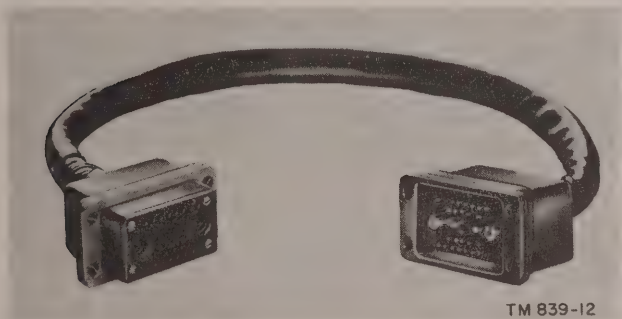

Figure 26. Electrical special purpose cable assembly CX-2371/U (patch cord)
b. Electrical Special Purpose Cable Assembly CX-2371/U is used to connect the receiver, transmitter, or transmitter power supply to the equipment cabinet when it is necessary to operate one of them outside of the equipment cabinet. The cable, known as a patch cord, is 4 feet long and has a male connector on one end and a female connector on the other end (fig. 26). It is useful when making internal adjustments and measurements under operating conditions.